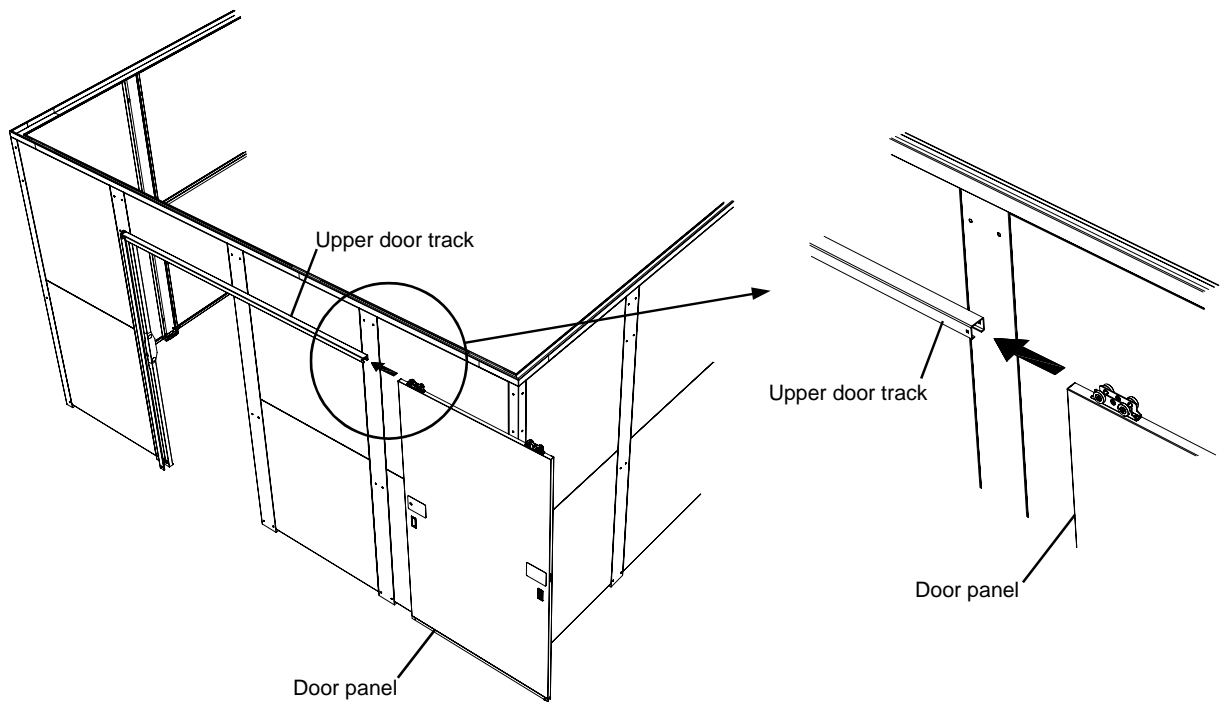

Figure 19
5. Slide the door panel into the open end of the upper door track. See figure 19.